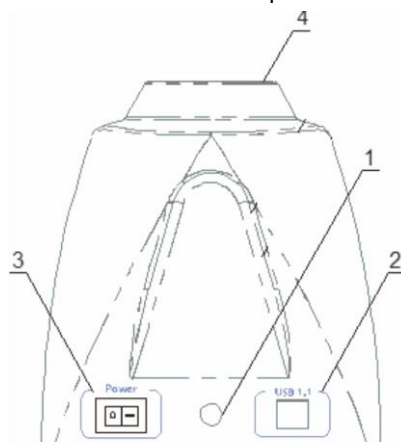

Fig. 1 Rear panel
- Connect the external power supply unit to the socket (fig. 1/1) on the rear side of the unit;
- Insert the falcon into the socket (fig. 1/4);
- 5.1. Connect external power supply unit to electric circuit (fig. 1/1).
- 5.2. Turn on the unit by pressing the power switch on the rear panel (fig. 1/3).
- 5.3. Insert the tube into the socket (fig. 1/4).
- 5.9. After finishing the operation switch OFF the unit with the Power switch (fig. 1/3).
- 5.10. Disconnect external power supply unit from electric circuit (fig. 1/1).